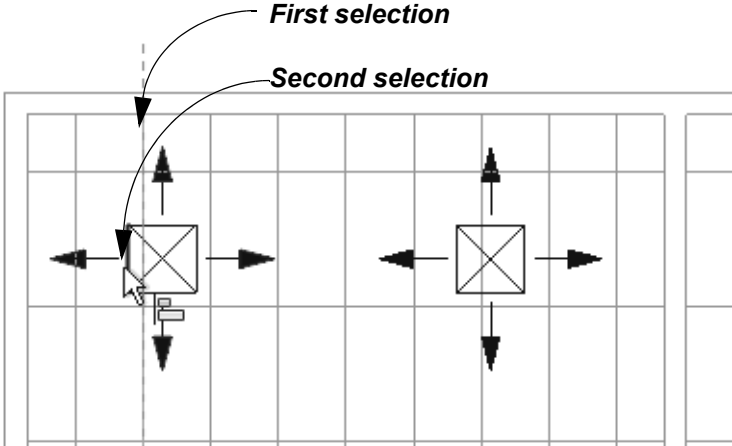

Figure 2–84
- 4. Select a vertical grid line and then the side of the air terminal, as shown in Figure 2–84.